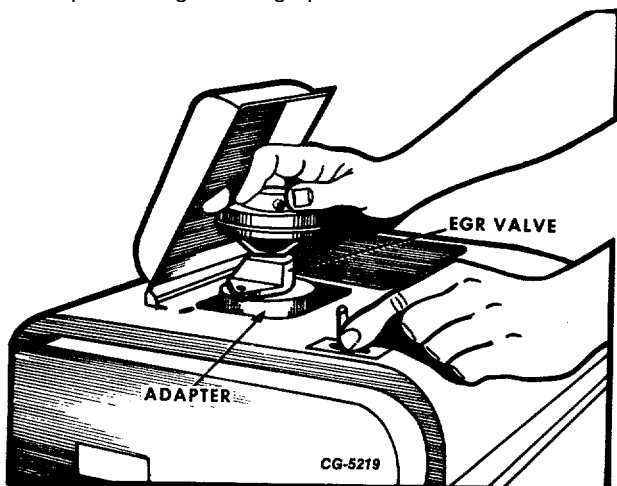

Fig. 50 Cleaning EGRH Valve
- (1) Prepare spark plug cleaner by installing rubber adapter with 22 mm (7/8") hole over cleaning (blast) port. Do not install metal adapter clamp (Fig. 50).
- (2) Insert pintle of EGR valve through hole in rubber plug cleaner adapter.
- (3) Holding EGR valve tightly down adapter, apply sand blast to clean pintle.